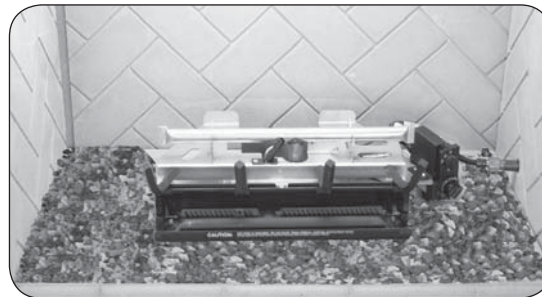

Fig. 18-1 Place lava granules
1. Spread the supplied lava granules on the floor of the fireplace, around the front and sides of the burner system (see Fig. 18-1). The lava granules may be placed around the remote receiver (as applicable). Leave the front of the receiver clear for control access.